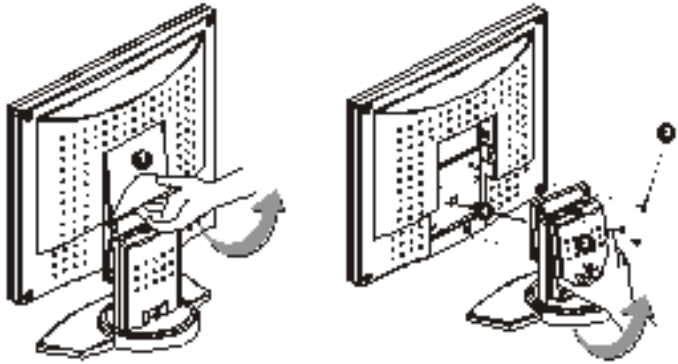

Figure 1-2
1. Remove the rear panel ❶ from the monitor. (see Fig. 1-2)
2. Remove the rear support panel ❷ from the swivel base support column.
3. Unscrew screws ❸ the swivel base support column ❹.
Before connecting the display to the swivel base support column, please refer to Fig.1-2.